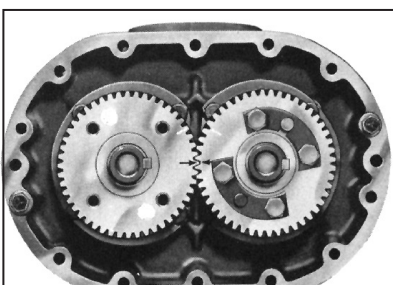
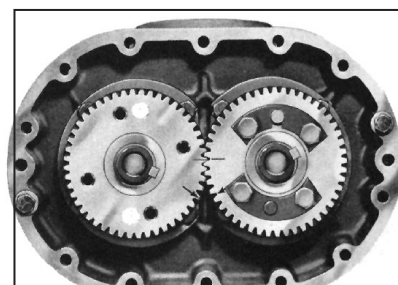

Figure 7 - Position of timing marks
Figure 8 - Position of timing marks
- a. Align timing marks on gears (Figure 7). Rotate drive gear clockwise approximately three teeth and mark a matching reference line on each gear as shown in Figure 8. This gear position is necessary so rotors will clear and not jam. Do not allow the gears to move from the matched reference line while pulling. Use a light rocking motion to insure that the lobes have not jammed. Remove driven gear first then drive gear.
- Insert gear keys [24] in their proper location and flush with top of shaft. Use the two keyways facing to the right. A tight fit is required. Coat shafts and keys with lubricant. Install drive gear (right hand helix) on drive rotor (left side). To install driven gear, align reference marks as shown in Fig. 7. Install driven gear carefully to avoid damaging any teeth when engaging opposite gear. Secure with spacers [57], washers [25], and flat head Allen screws [29].